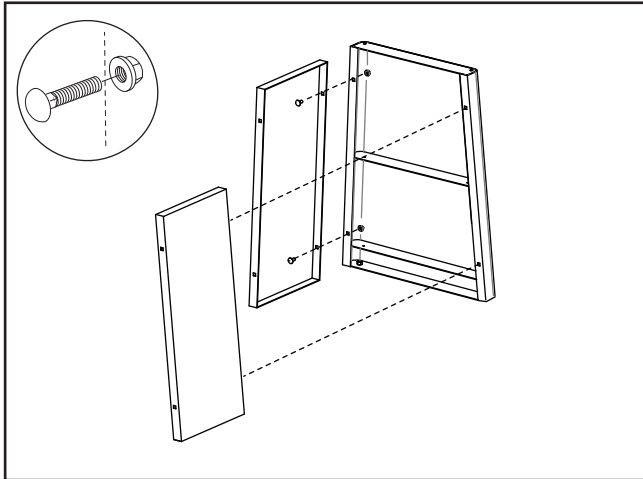

Figure 6. Side and rear panel installation.
1. Fasten the left and right panels to the rear panel, as shown in **Figure 6**, using (4) $\frac{5}{16}$ "-18 x $\frac{3}{4}$ " carriage bolts and (4) $\frac{5}{16}$ "-18 flange nuts.